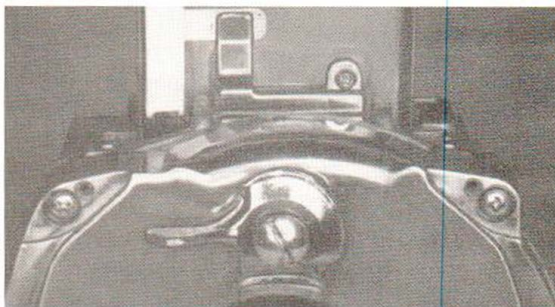

Figure 7. Headlight Cap/Slide Bracket Assembly/Handle Pivot Assembly (Front)
- E. See Figure 7. Remove two Phillips head screws from the fan case assembly. These screws pass through the fan case assembly and base sub-assembly and thread into the slide bracket casting. Remove headlight cap/slide bracket assembly and handle pivot assembly as a complete unit.